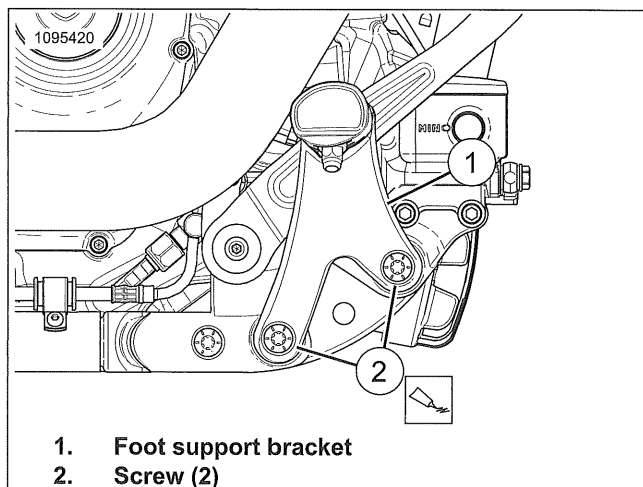
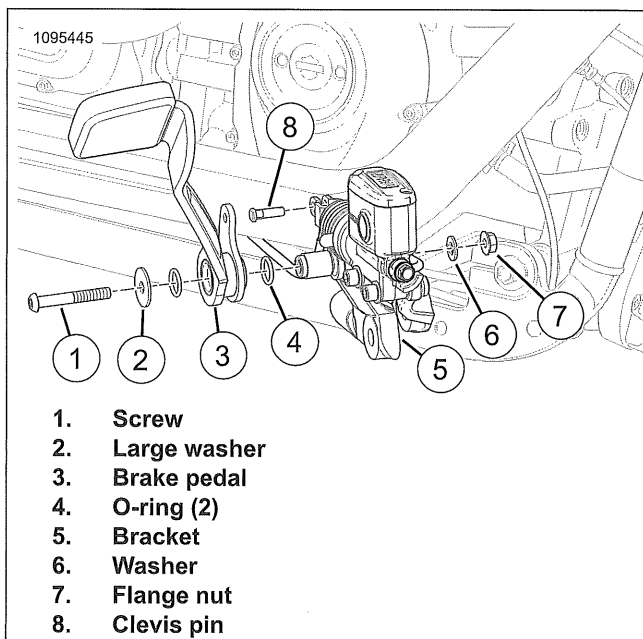

Figure 3-135. Right Foot Support Bracket (Typical)
Figure 3-136. Brake Pedal
1. See Figure 3-135. Remove foot support bracket
- a. Remove screws (2).
- b. Remove foot support bracket (1).
2. See Figure 3-136. Remove brake pedal
- a. Remove rear master cylinder bracket (5). See REAR BRAKE MASTER CYLINDER (Page 3-42).
- b. Remove rear brake master cylinder clevis pin (8). See REAR BRAKE MASTER CYLINDER (Page 3-42).
- c. Remove flange nut (7) and washer (6).
- d. Remove screw (1) and large washer (2).
- e. Remove brake pedal (3).
- f. Inspect O-rings (4) for damage, replace if necessary
1. See Figure 3-136. Install brake pedal
- a. If removed, install O-rings (4).
- b. Install brake pedal (3).
- c. Install screw (1) and large washer (2).
- d. Install washer (6) and flange nut (7). Tighten.
- e. Install rear brake master cylinder clevis pin (8). See REAR BRAKE MASTER CYLINDER (Page 3-42).
- f. Install rear master cylinder bracket (5). See REAR BRAKE MASTER CYLINDER (Page 3-42).
2. See Figure 3-135. Install foot support bracket.
- a. Apply threadlocker to screws (2).